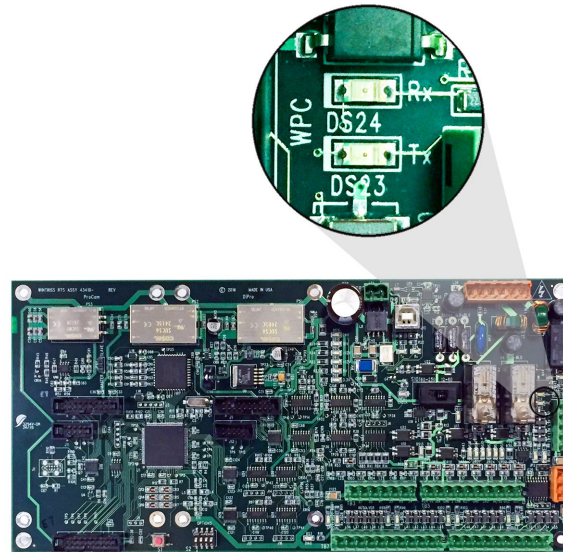

Figure 2-6. SmartPAC PRO board, Rx and Tx LEDs
2. Leaving power on, open the door of the SmartPAC PRO enclosure, and check the state of the WPC LEDs labelled Rx (DS24) and Tx (DS23) on the SmartPAC PRO board, Figure 2-6, above.